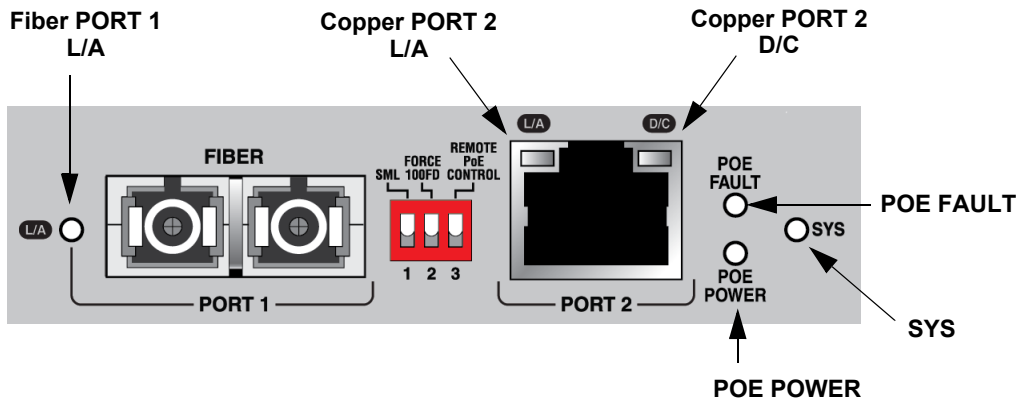

Figure 2. LEDs
**LEDs** Figure 2 shows the media converter LEDs.